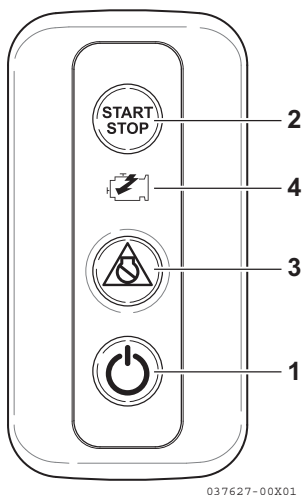

Figure 8
4. Press the Power switch on the switch panel of the selected station (**Figure 8, (1)**).
9. Press the Engine START/STOP switch (**Figure 8, (2)**) and power on the starter.